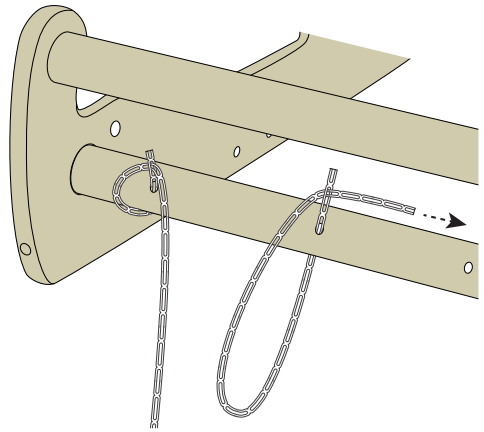

FIGURE 6: ATTACH APRON CORDS TO BEAMS
6. Attach the apron cords to warp and cloth beams. Insert one end of a cord into a hole in the warp or cloth beam. (You can use a straightened paper clip to push the cords through.) Place the other end of the cord through the last complete loop in the cord and pull it tight around the beam (Figure 6). Repeat for all the holes in the warp and cloth beams.